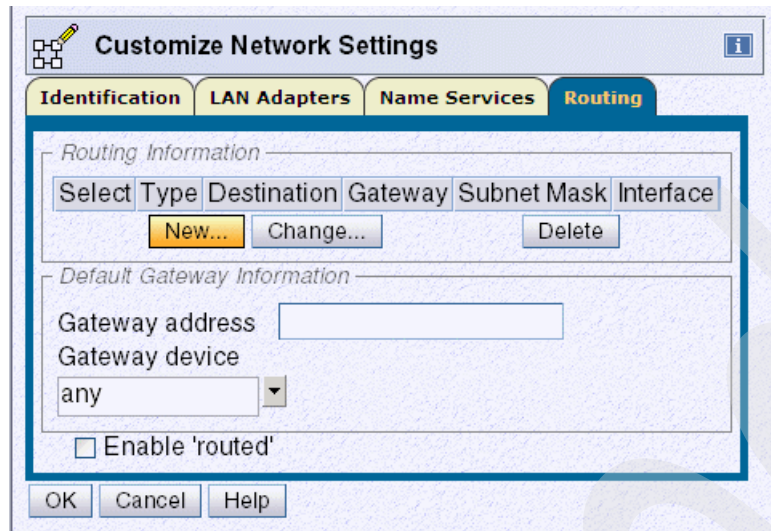

Figure 2-29 Customize Network Settings, Routing
9. Select the Routing tab in the Customize Network Setting panel (Figure 2-29).